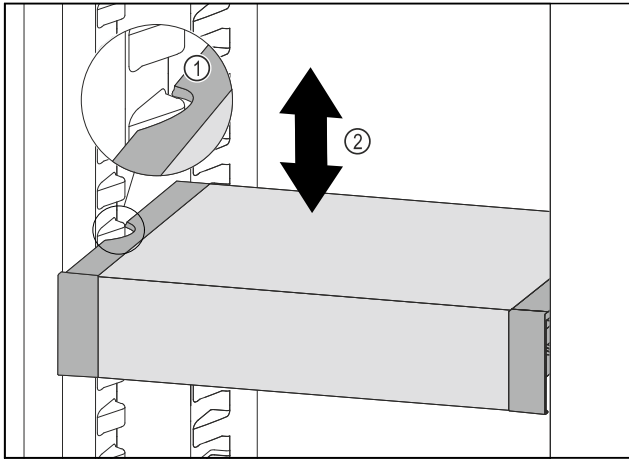

Fig. 96
- ▶ Pull VarioSafe forwards until the recesses in the side of the VarioSafe are at the level of the support rib in the refrigerator compartment. *Fig. 96 (1)*
- ▶ Move VarioSafe up or down in the refrigerator compartment until the desired height is reached. *Fig. 96 (2)*